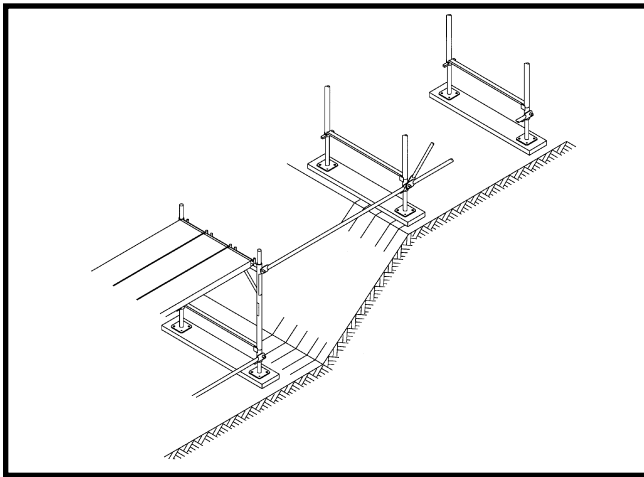

Figure 3: Erecting the Safway SL Scaffold System on Slope Surfaces
2.2.4 Base Frames: Sloping surfaces, height differences and the need to reach certain working heights are accomplished by using various height SL frames in combination with the STSJ1 and the longer SLSJ66 jacks (See Fig. 3). Standard frame heights are: the SLF05 which is 19 3/4 inches (50.5 cm) high; the SLF1 which is 39 3/8 inches (1m) high and the SLF2 which is 6 foot-6 3/4 inches (2m) high.